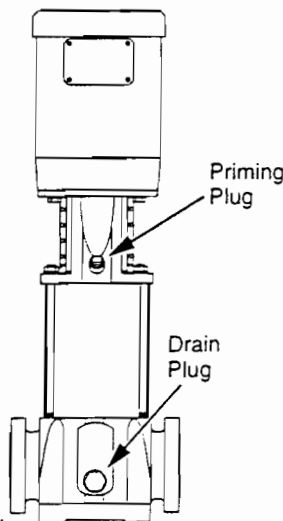

FIGURE 7 - Priming and Drain Plugs
1. Close the discharge isolating valve and loosen the priming plug in the pump head (Figure 7).
NPSHR = 10' (See Figure 7)